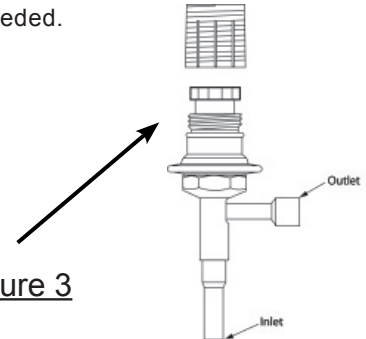

Figure 3
- 2) Remove the dryer cover and locate the control valve (See Figure 3).